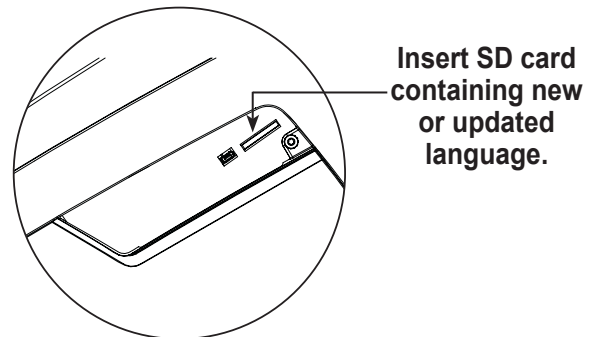

Figure 9
3. Insert the SD card containing the language data into the side panel on the machine. See Figure 9.